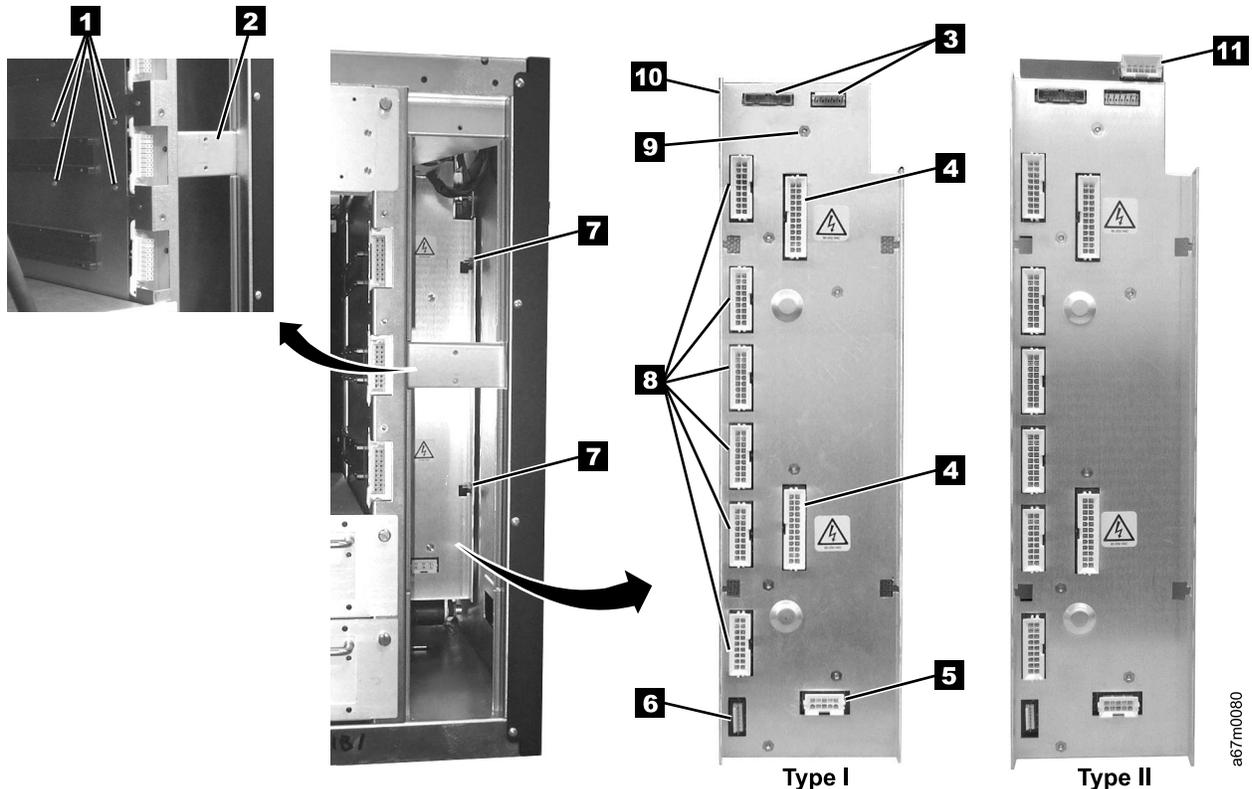

Figure 7-39. Power Distribution Board Removal and Replacement
- For Type II and Type I Power Distribution Board Part Numbers, see Table 14-1 on page 14-1. See Figure 7-39 for locations of components in the following procedure.